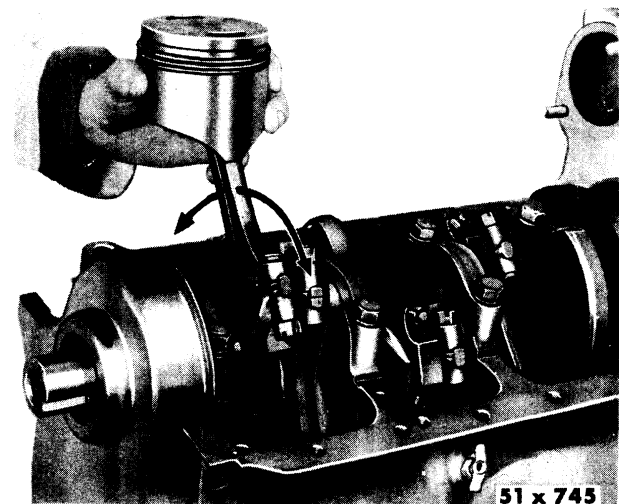

Fig. 43—Checking Connecting Rod Bearing Clearance (Typical)
- (1) Place a piece of oiled .001 inch feeler stock ($\frac{1}{2}$ inch wide and $\frac{3}{4}$ inch long) between the bearing shell and crankshaft journal. Install the bearing cap and tighten the nuts to 45 foot-pounds torque.
- (2) Move the connecting rod and piston from side to side, as shown in Figure 43. A slight drag should be felt as the rod is moved. This will indicate that the clearance is .001 inch or less, which is satisfactory. If the con-